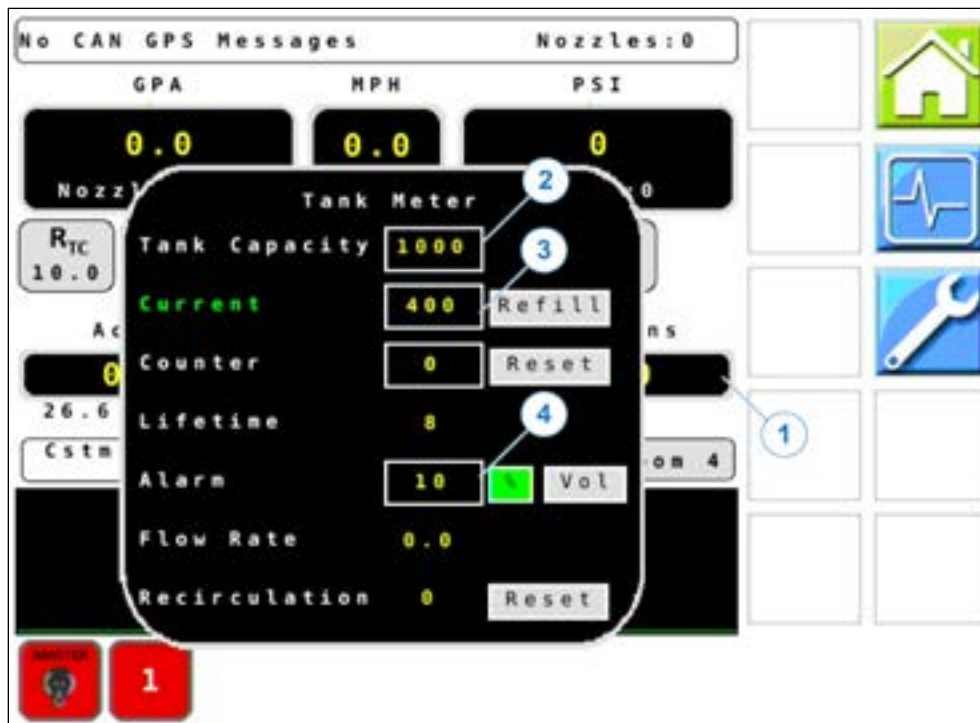

Figure 35: Tank Meter Popup
1. Tap the Gallons text area displaying the current tank volume (Figure 35, Item 1).
2. Enter the correct Tank Capacity (Figure 35, Item 2).
3. Enter the Current tank volume if applicable (Figure 35, Item 3).
4. Enter the Alarm threshold to alert for the tank percentage or volume specified (Figure 35, Item 4).